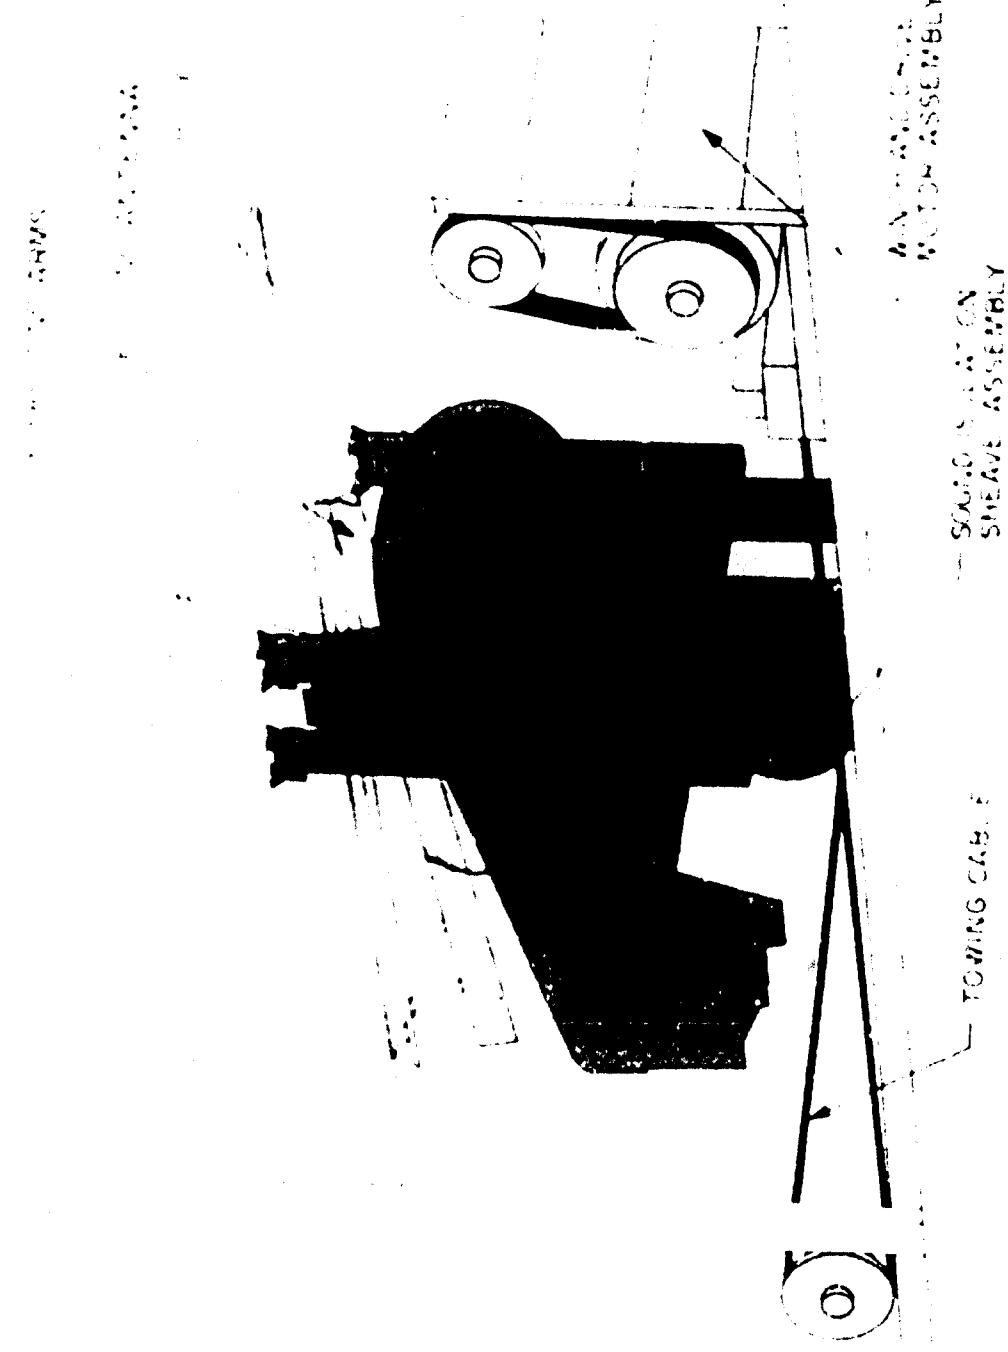

Fig. 1-2. Buoy winch and nest
- **REELING MACHINE (Common name: WINCH/NEST ASSEMBLY)** - The winch/nest assembly is bolted to the deck of the submarine and contains the winch motor with the reel of tow cable for the buoy. The buoy nests on this assembly when not in use. Refer to Fig. 1-2.